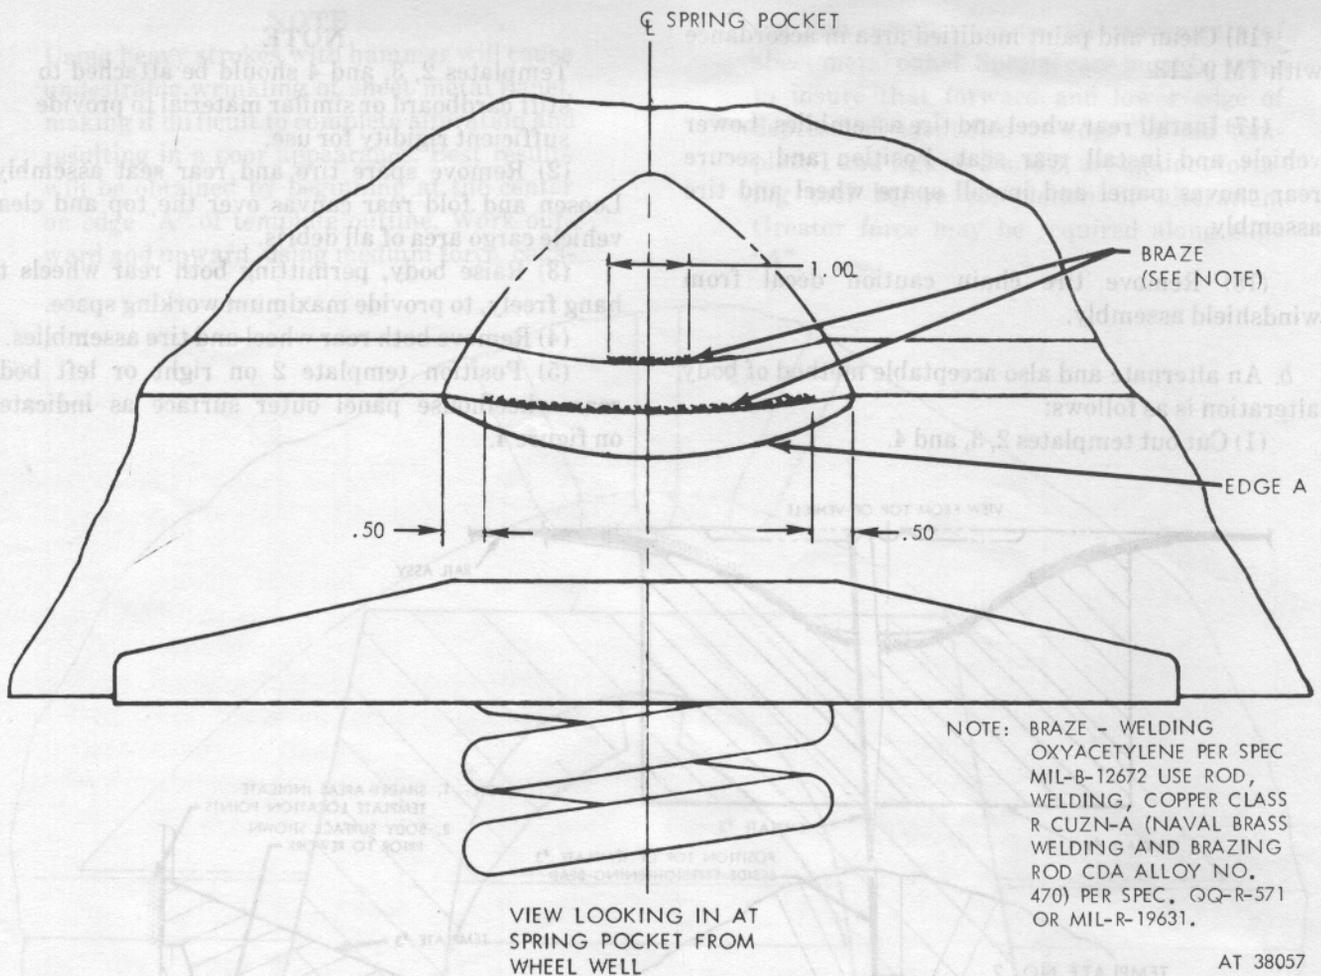

Figure 5. Brazing of seam.
(13) Carefully hammer shut all seams which may have separated during alteration without reducing depression.
(14) Braze outside seams as shown on figure 5.
(15) If desired, fill all seams left open after above alteration with epoxy plastic, auto body type I, repair kit FSN 8010-615-5370. Refer to TB 2300-258-30.
(16) Clean and paint modified area in accordance with TM 9-213.
(17) Install rear wheel and tire assemblies. Lower vehicle and install rear seat. Position and secure rear canvas panel and install spare wheel and tire assembly.
(18) Remove tire chain caution decal from windshield assembly.
(12) Carefully hammer shut all seams which were separated during alteration without reducing depression.
(13) Braze outside seams as shown on figure 5.
(14) If desired, fill all seams left open by the above alterations with epoxy poastic auto body, type I, repair kit FSN 8010-615-5370. Refer to TB 9-2300-258-30.
(15) Clean and paint modified areas in accordance with TM 9-213.
(16) Install rear wheel and tire assemblies. Lower vehicle and install rear seat. Position and secure rear canvas panel and install spare wheel and tire assembly.
(17) Remove tire chain caution decal from windshield assembly.